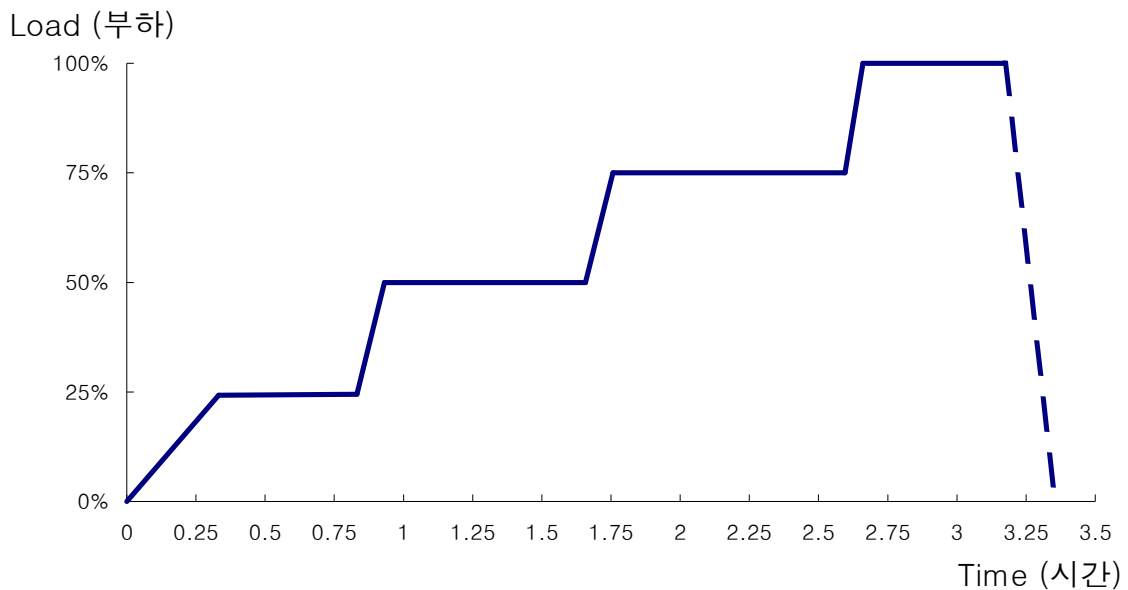

Fig. 1 Running-in time and load (길들임 시간과 부하)
- Load up the engine according to following running-in procedures [See fig. 1].